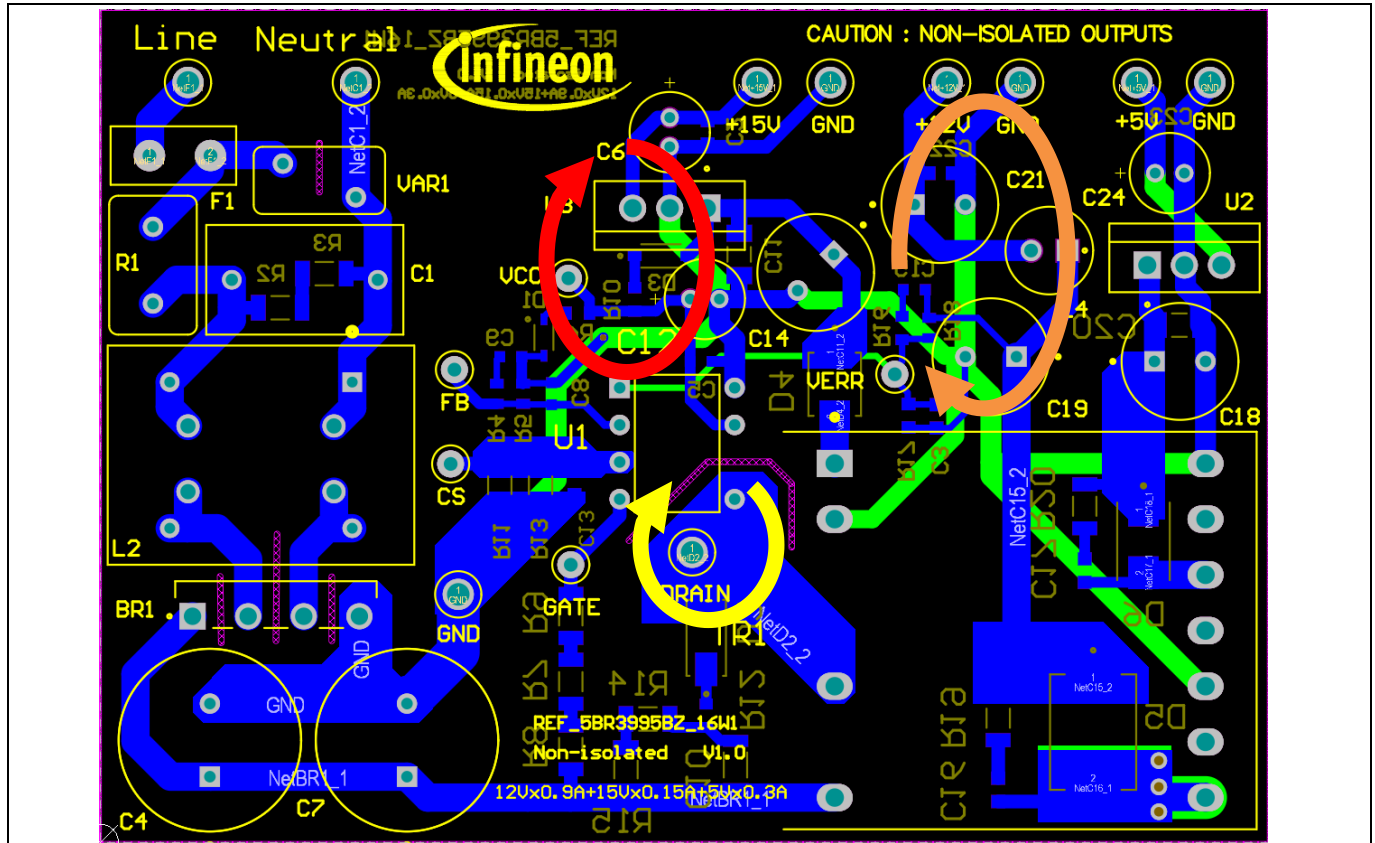

Figure 5 PCB layout tips
- The switching power loop needs to be as small as possible (see Figure 5). There are three power loops in the reference design; one on the HV side and two on the output side. The HV loop starts from the bulk capacitor C7 positive terminal, primary transformer winding, CoolSET™, CS resistors and back to the C7 negative terminal. The first output side loop (+12 V output) starts at the transformer winding pin 8, output diode D5, output capacitor C19 and back to pin 10 of TR1. The second output loop (+8 V output) starts at the transformer winding (pin 12 of TR1), output diode D6, output capacitor C18 and back to pin 14 of T1. The third output loop (18 V output) starts at the transformer winding (pin 2 of TR1), output diode D4, output capacitor C14 and back to pin 1 of T1.